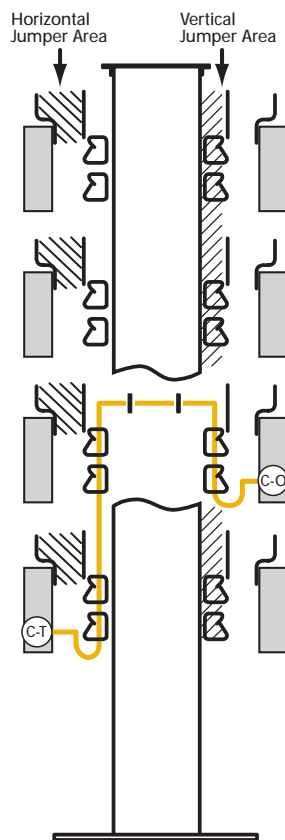
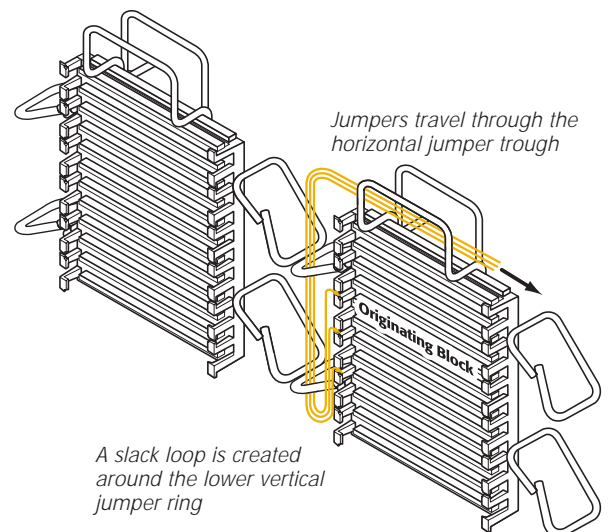

Figure 2 Routing from one side of frame to the other
Figure 3
4. Route the jumper to the vertical jumper rings on the frame (the angled rings immediately adjacent to the originating block). Be sure to leave a slack loop. (See Figure 3.)
5. If the termination block is on the same side of the frame, begin routing the jumper to the horizontal jumper trough immediately above the originating block. (See Figure 3.) If the termination block is on the opposite side of the frame, route the jumper through the frame and into the horizontal jumper trough on the opposite side of the frame. (See Figure 2 and Figure 3.)